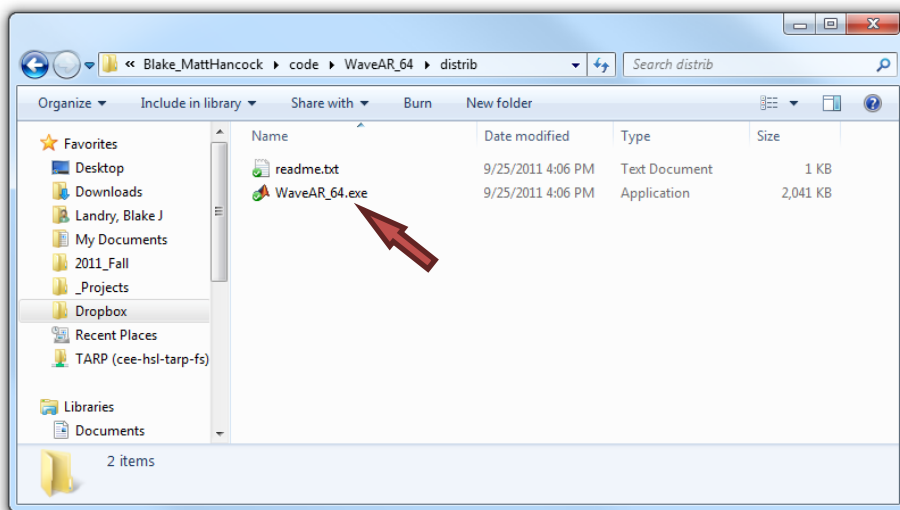

Figure 1. *WaveAR* executable file for user specified OS (e.g., Windows 64-bit version shown).
- 3) Within the *WaveAR* folder, find the correct executable file that corresponds to your computer's operating system (OS).
- 4) To run the program, simply double click on the corresponding executable file (e.g. see Figure 1 for example of 64-bit version exe).